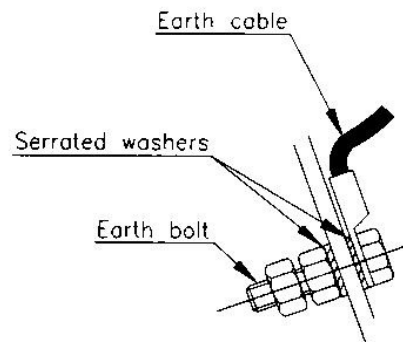

Fig. 9b
7. Connect the earth cable to the earth bolt in the firebox side, ensuring that the serrated washers are fitted as shown in Fig. 9b.